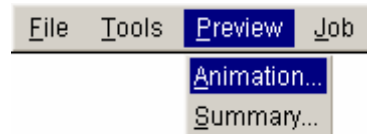

Figure 7.51 Animation menu
1. Select **Preview→Animation...** in the menu bar. See Figure 7.51.